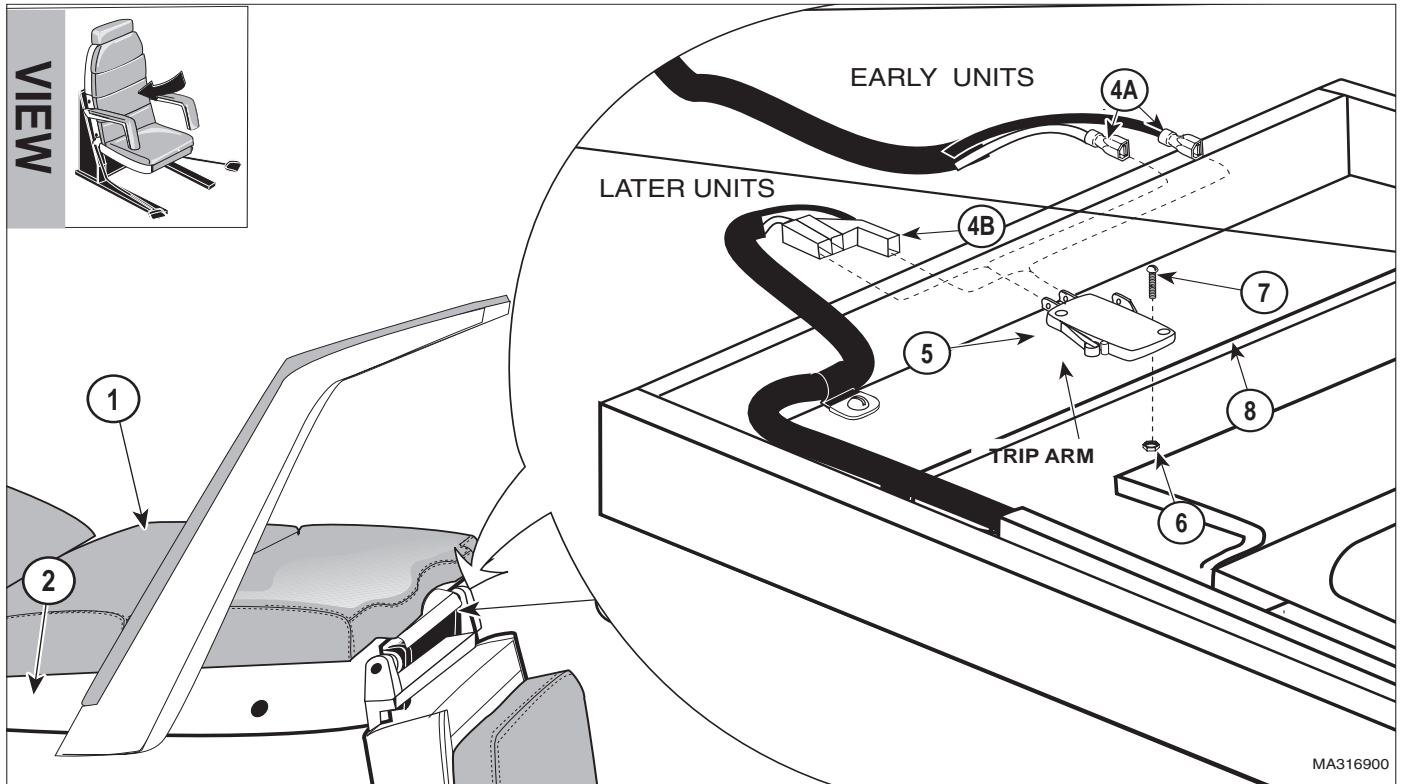

Figure 4-4. Pan Safety Limit Switch Removal / Installation
- (3) Remove upholstered lower back section (1, Figure 4-4) from lower back casting (2).
- (4) Pull pan holder assembly (3) out as far as possible.